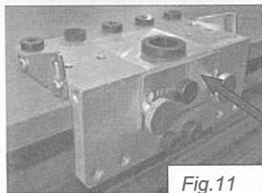

Fig.11
- 4.2. Secure the drill guide by screwing one of the vertical drill guides onto the jig body (fig. 11).